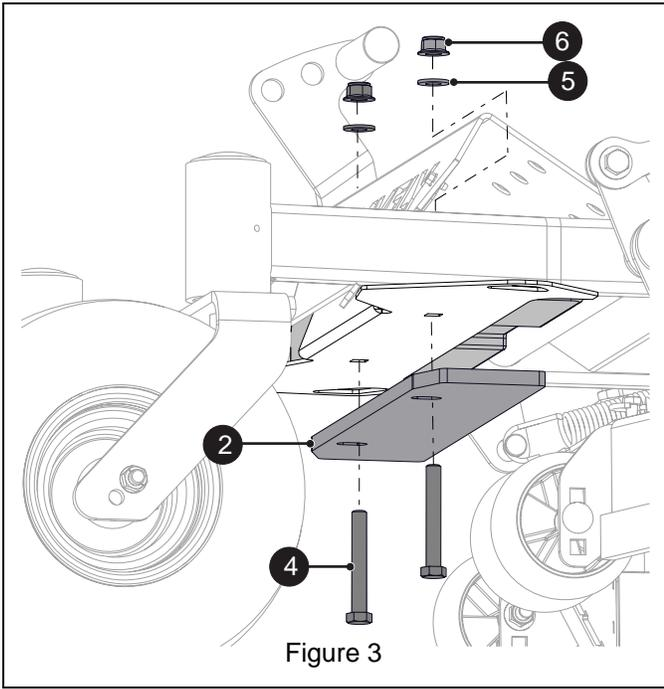

Figure 3
2. Position counterweight plate (item 2) under crossmember and secure it and the cast iron weight with two 1/2 x 3 1/2" hex bolts (item 4), two flat steel washers (item 5) and two 1/2" nylon locking flange nuts (item 6). See Figure 3.